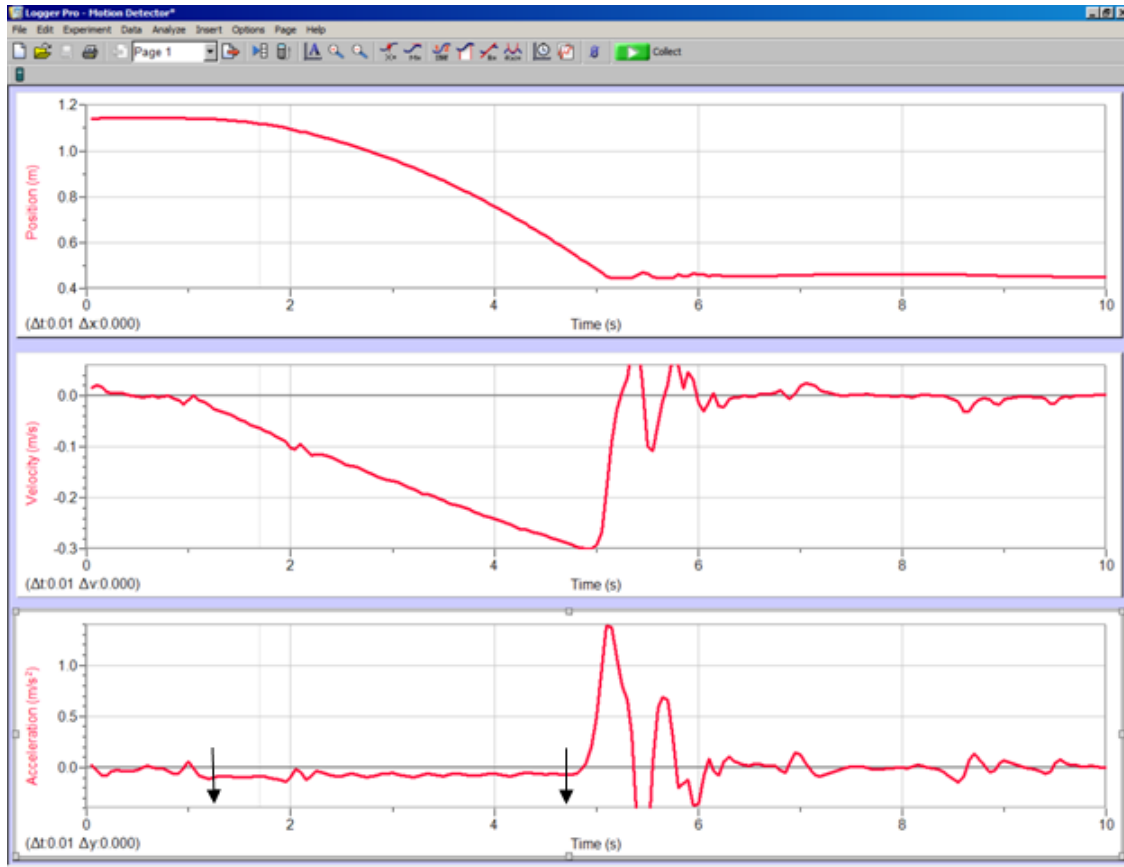

Figure 4
on this and look for the Motion Detector folder. Double-click this and then select the Motion Detector file. In the Logger *Pro* window, you should see a Graph Window with three panes showing position, velocity, and acceleration on the vertical axes and time on the horizontal axes. (See Figure 4.)
- 5 When your data looks like that in the example below, with smoothly changing position and velocity and an approximately constant acceleration, you are ready to take data. (See Figure 4 for an example of what the data should look like.) Turn on the data collection and release the cart near the top of the ramp. Catch the cart before it hits the end of the track and keep it motionless until the data collection stops (you will hear the sonic ranger stop clicking). The
- 1 On the desktop, open the CSV file you saved in part A using Excel. Next, with the file open, you want to make three separate graphs: the position vs. time, the velocity vs. time, and the acceleration vs. time for this data. You can do this by highlighting the data that you wish to graph and then clicking on insert scatter plot in the tool bar. Start with the acceleration vs. time graph first, since this graph will help you see which range of data in the table you will want to study more carefully. When the acceleration vs. time graph is displayed, you will want to determine the time range over which the value of the acceleration is behaving as though it is a constant. Why should we expect this behavior? The two arrows on the acceleration graph in Figure 4 point out the region of uniform acceleration for this data run. Note the beginning and end times for this interval and then replot all three of these motion graphs over this interval.